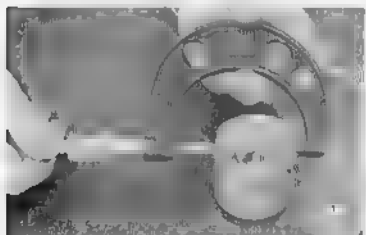

Fig. 3.52 Measuring piston pin diameter
4. Measure the skirt of the piston perpendicular to the piston pin hole. [Fig. 3.52]